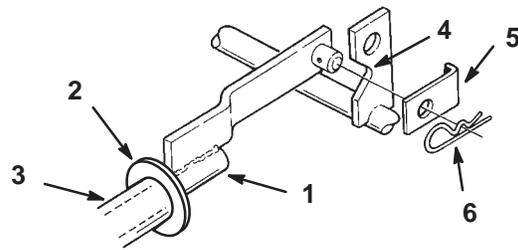

Figure 13
7. Slide the lift rod into the lift tube (Fig. 13).
8. Place spacer washers (3/4 in.) onto the shaft of the lift rod to increase lift height, if desired (Fig. 13).
9. Connect the lift rod to the V-notch in the attachment lift with a retainer and a hairpin cotter (2-1/2 in.) (Fig. 13).